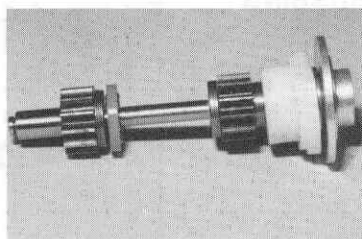

Fig. 65
- ☐ **Fig. 60** Slip the gear onto the tube and tap the assembly together using the plastic handle of a screwdriver. DO NOT use a vise to squeeze it on. The gear does NOT go all the way on. There should be enough room left in the gear (.100 or 2.5mm) to install the Teflon bushing shown in Fig. 65.
☐ **Fig. 65** Now slip the dif tube assembly onto the dif shaft, as shown.